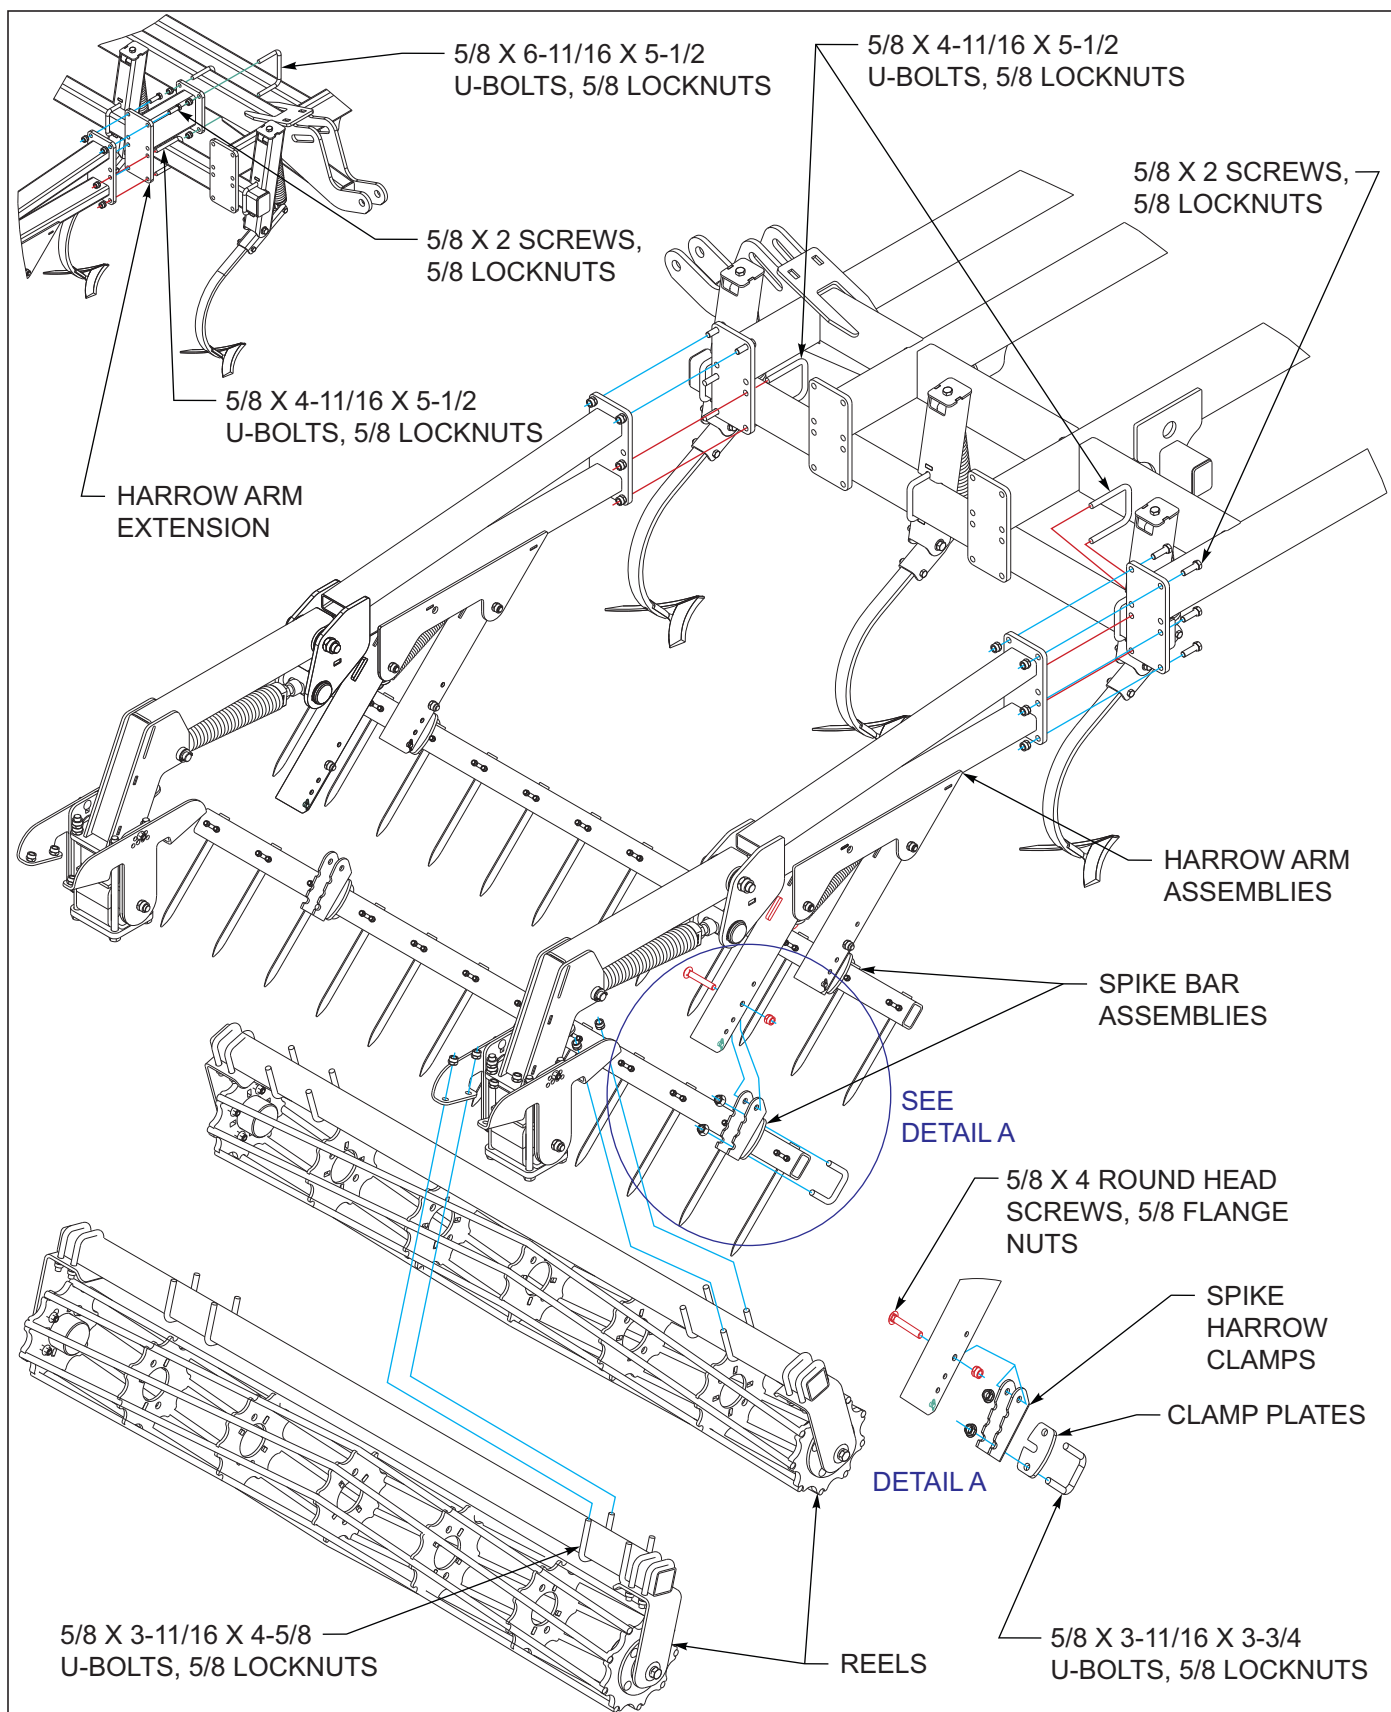

Figure 3-66: Spike & Double Reel Installation
1. On 30'-35' machines install the harrow arm extensions to the inner wings locations, using 5/8 u-bolts and 5/8 locknuts **See Figure 3-66**.